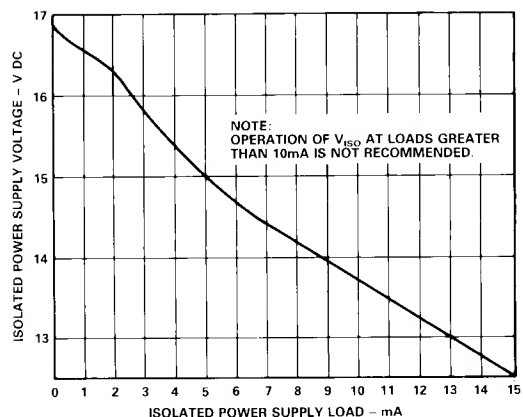

Figure 17. Isolated Power Supply Voltage (V DC) vs. Isolated Power Supply Load (mA), with  $V_S = 15$  V pk-pk, 25 kHz Square Wave
6Refer to Figure 17 for a curve illustrating the load drive capabilities of the isolated power supply.
**Isolated Power Supply.** The load characteristics of the AD208's isolated power supplies are plotted in Figure 17. It is recommended that the isolated power supply load not exceed 10 mA as permanent damage to the internal power circuitry of the AD208 may occur.